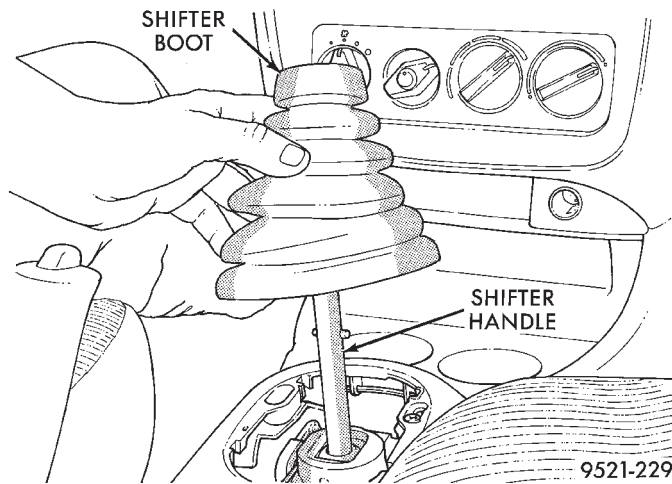

Fig. 147 Boot Removal
- Remove the shifter boot from the center console. Shifter boot is removed by squeezing the bezel together at the base of the shifter boot and pulling upward on the boot (Fig. 147).